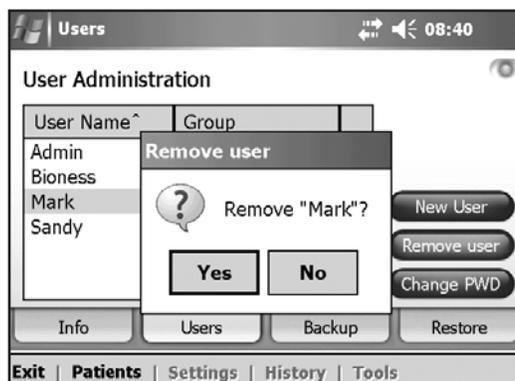

Figure 8-46: Remove User confirmation window.
3. A confirmation message will appear. See Figure 8-46. Press **Yes**.